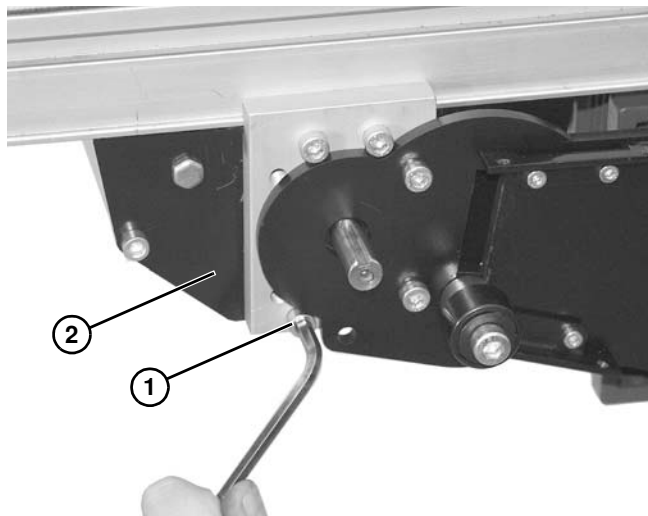

Figure 53
2. Remove two screws (Figure 53, item 1) from bottom of mid drive assembly (Figure 53, item 2).